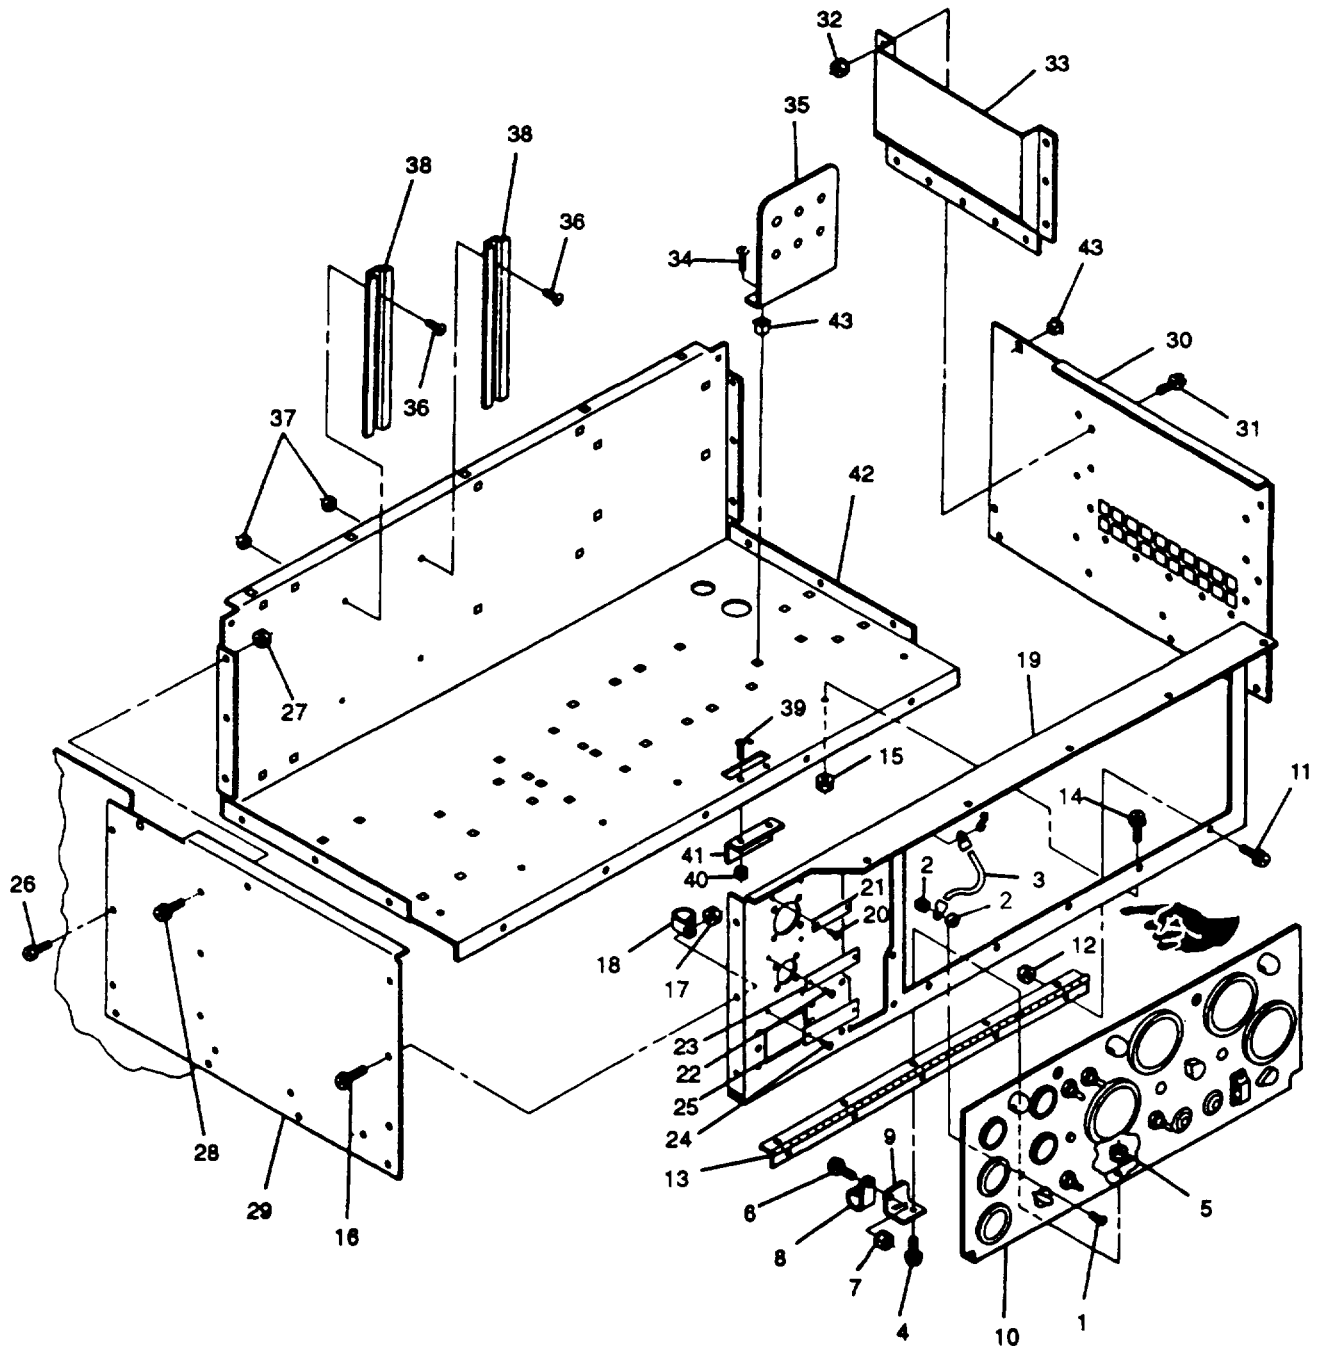

FIGURE 2-19. Control Box Panels
- f. Tag and disconnect all electrical leads to remaining indicators and switches on control panel(10,FIGURE2-19).
- g. Remove screw (1), nut (2), and strap (3).
- h. Remove bolts (4) and (6), nuts (5) and (7), bracket (9), clamp (8), and control panel (10) from control box assembly.
- i. Remove bolts (11), nuts (12), and hinge(13) from control box assembly.
Inspect control panel (10, FIGURE 2-19) for dents, cracks, loose paint, and corrosion.
Inspect control panel frame (19, FIGURE 2-19) for dents, cracks, loose paint, and corrosion.
- a. Install control panel frame (19, FIGURE 2-19) and clamp (18) to control box assembly with bolts (14) and (16) and nuts (15) and (17).
- b. If removed, install identification plates (21), (23), and (25) on rear panel (19) with pop rivets (20), (22), and (24).
- d. Remove bolts (16, 26, and 28, FIGURE 2-19), nuts (17) and (27), and control box side panels (29) and (30) from generator set.
- e. Remove bolts (31), nuts (32), and air deflector (33) from side panel (30).
- a. Inspect side panels (29 and 30, FIGURE 2-19) and air deflector (33) for dents, cracks, loose paint, and corrosion.
- b. Inspect for missing or damaged cage nuts (43).
- b. Install air deflector (33) on control box side panel (30) with bolts (31) and nuts (32).
- c. Install control box side panels (29 and 30, FIGURE 2-19) on generator set with bolts (16), (26), and (28) and nuts (17) and (27). Ensure center bolt (16) and nut (17) on left side panel secures clamp (18).
- h. Remove screws (34, FIGURE 2-19) and bracket (35) from control box bottom (42).
- i. Remove screws (36), nuts (37), and relay tracks (38) from control box bottom (42).
- j. Remove screws (39), nuts (40), and latch plate (41) from control box bottom (42).
- a. Inspect control box bottom (42, FIGURE 2-19) for dents, cracks, loose paint, and corrosion.
- a. Install latch plate (41, FIGURE 2-19) on control box bottom (42) with screws (39) and nuts (40).
- b. Install relay tracks (38) on control box bottom (42) with screws (36) and nuts (37).
- c. Install bracket (35) on control box bottom (42) with screws (34).